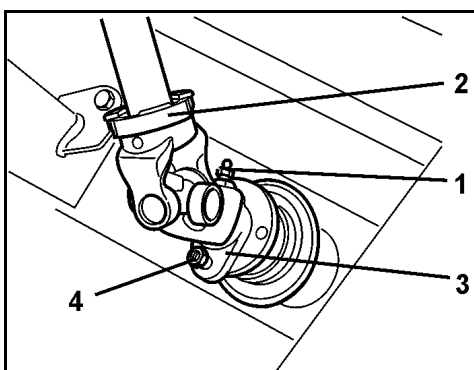

Fig. 54
13. Secure the PTO shaft guard against rotation by attaching the chain to the machine (Fig. 54).